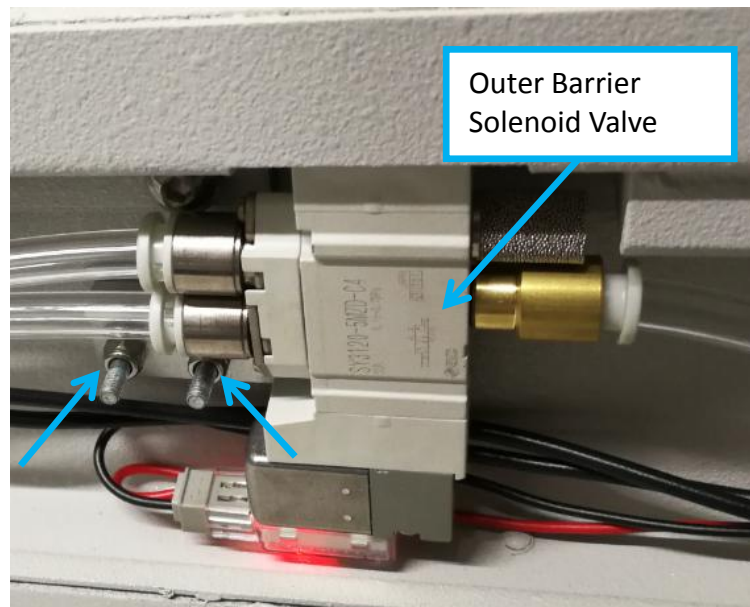

Figure 3
7. Loosen 2 x Nut & remove entire Outer Barrier Valve assembly from Outer Barrier. May refer to Figure 3.